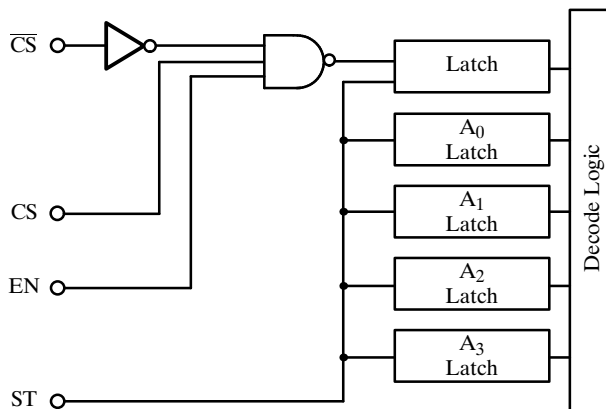

Figure 11. \overline{CS} , CS , EN , ST Control Logic
All four address inputs have on-chip data latches which are controlled by the Strobe (ST) input. These latches are transparent when Strobe is high but they maintain the chosen address when Strobe goes low. To facilitate easy microprocessor control in large matrices a choice of three independent logic inputs (EN , CS and \overline{CS}) are provided on chip. These inputs are gated together (see Figure 11) and only when $EN = CS = 1$ and $\overline{CS} = 0$ can an output switch be selected. This necessary logic condition is then latched-in when Strobe (ST) goes low.